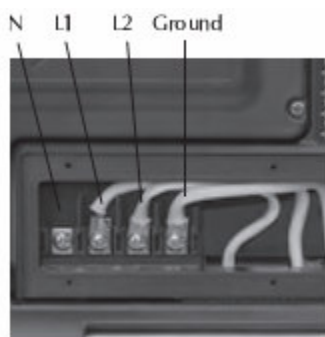

Figure 4
5. Unscrew the L1 wire from the terminal post (figure 4), then reconnect it to the Neutral terminal post (figure 5).